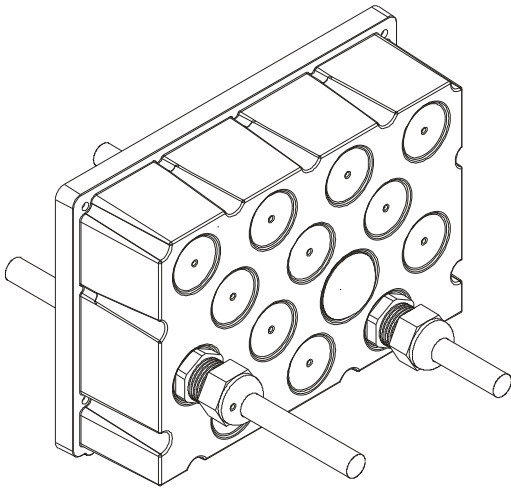

FIG. 87: INSTALLING CABLES IN THE CORD GRIP ASSEMBLY
- Slide the cable through the Cord Grip Assembly. Make sure that you slide enough of the cable so that you can create a cable relief bend and connect to the connectors in the rear panel of the instrument. (See Fig. 87)